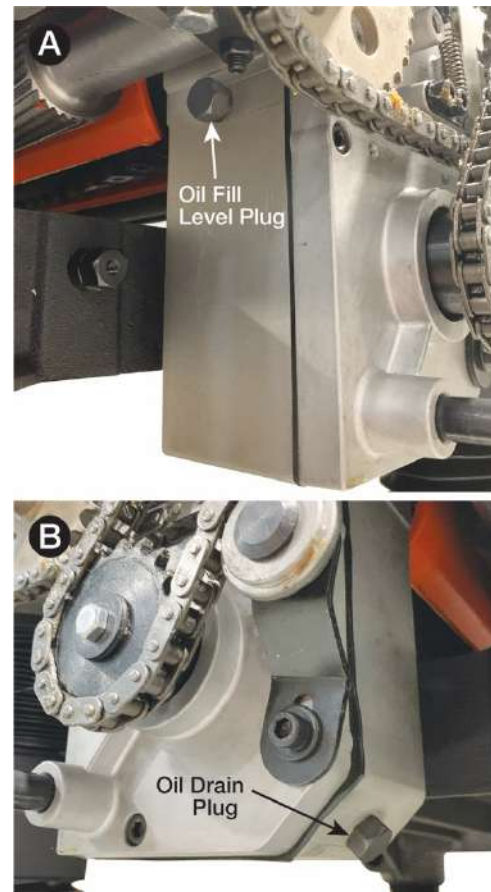

Figure 34
5. Remove the oil fill level plug (Figure 34).
6. Remove the oil drain plug (Figure 34) and allow all gearbox oil to drain. Properly dispose of used gearbox oil.
8. Add high quality 70-90 weight gear oil. Fill and carefully watch the open oil fill level hole (Figure 34). The gearbox is full when gear oil starts to seep from open oil fill level hole. Replace and tighten oil fill level plug.